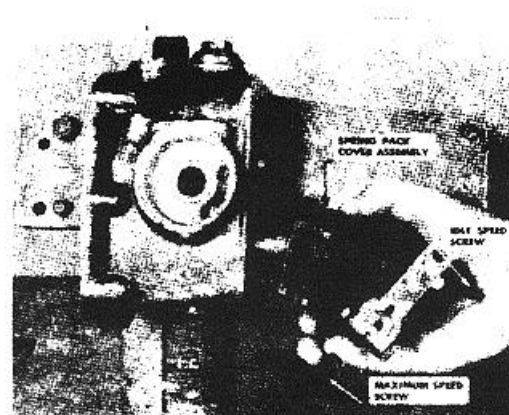

Figure 4-65. Install cover assembly.
b. Place a new gasket on the spring pack cover and assemble cover to fuel pump. Fig. 4-65.